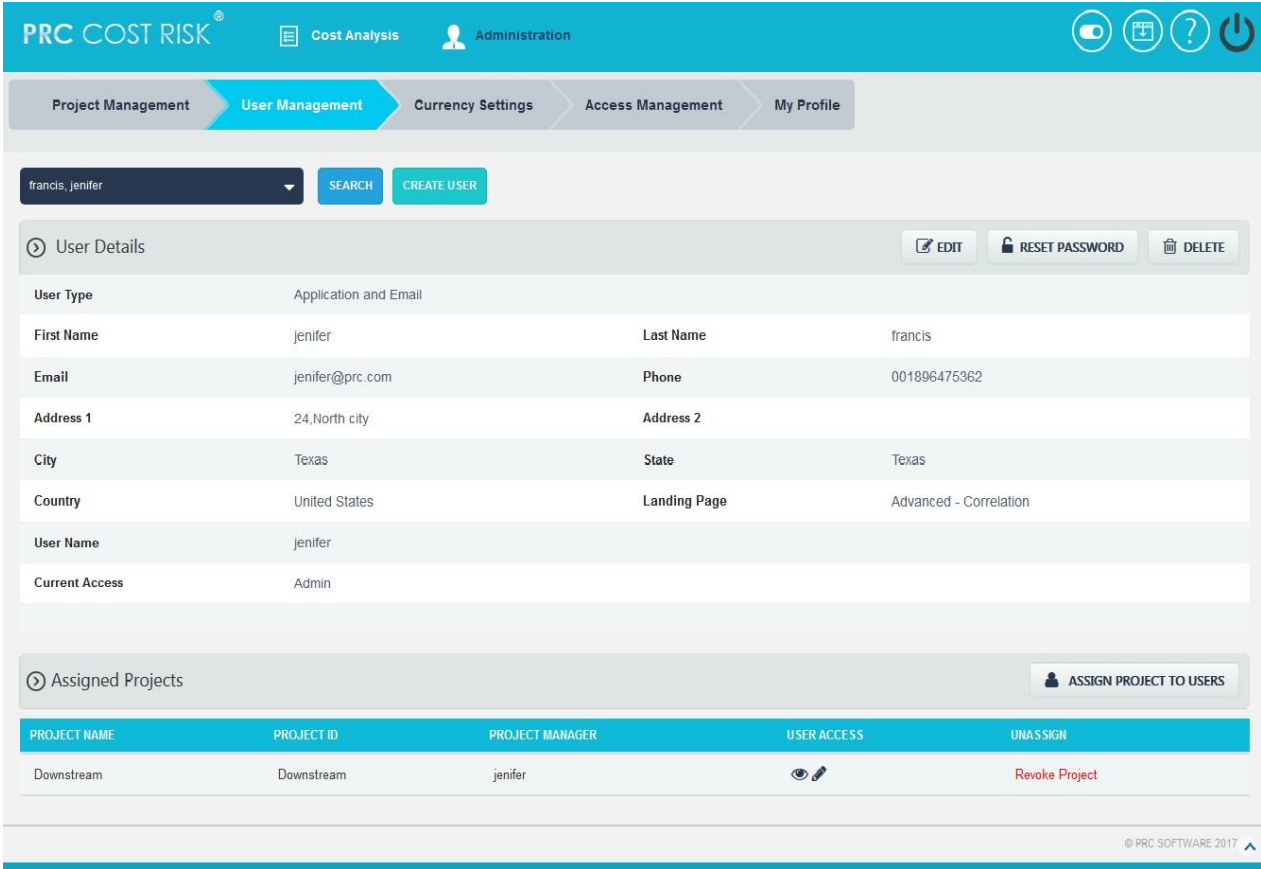
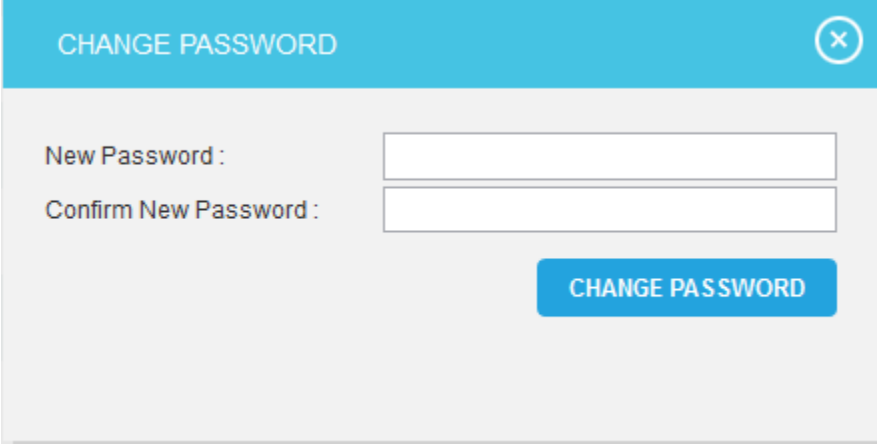

Figure 1.1
Figure 1.3
2. Click the **CREATE USER** button. (Figure 1.1)
3. Click the **EDIT** button. (Figure 1.1)
3. Click the **RESET PASSWORD** button. (Figure 1.1) A pop up appears. (Figure 1.3)
4. Enter the **New Password** and **Confirm New Password** and click the **CHANGE PASSWORD** button to finish. (Figure 1.3)
3. Click the **ASSIGN PROJECT TO USERS** button. (Figure 1.1)
In order to view or edit individual project's user access, click **VIEW/EDIT** icon (Figure 1.1) under the Assigned Project section.
In order to remove a project assigned to a user, click the **Revoke Project** link corresponding to each project under the Assigned Project section. (Figure 1.1)
3. Click **Revoke Project** link corresponding to the project to be revoked. (Figure 1.1)
3. Click the **DELETE** button. (Figure 1.1)